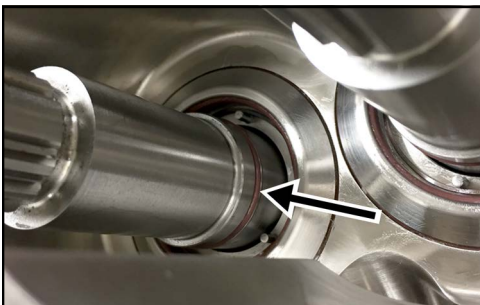

Figure 48 - Remove shaft O-ring
2. Remove the shaft O-ring from the O-ring groove on each shaft, as shown in Figure 48.